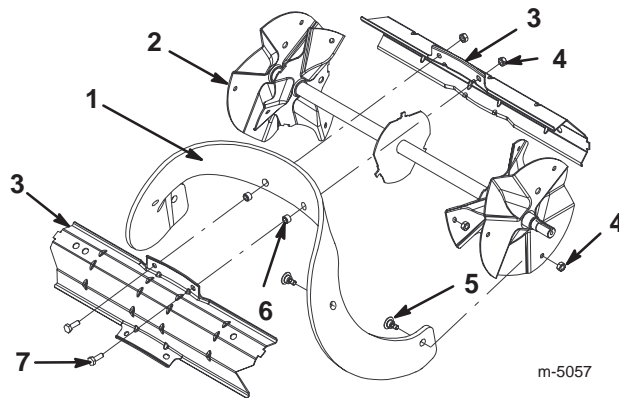

Figure 14
1. Remove the 4 torx screws and the 4 locknuts that secure the outer edges of the rotor blade to the rotor assembly (Fig. 14).
2. Remove the 2 hex-head cap screws and 2 locknuts that secure the center of the rotor blade to the rotor drum (Fig. 14).
3. Slide the rotor blade out from between the rotor drum parts (Fig. 14).
3. Secure the new rotor blade to the rotor drum parts with the 2 hex-head cap screws and 2 locknuts that you previously removed. Position the bolt heads on the thick rubber side of the rotor blade (Figs. 14 and 15).
4. Curve the new rotor blade and secure it with the remaining torx screws and locknuts, positioning the screw heads on the thick rubber side of the rotor blade (Figs. 14 and 15).